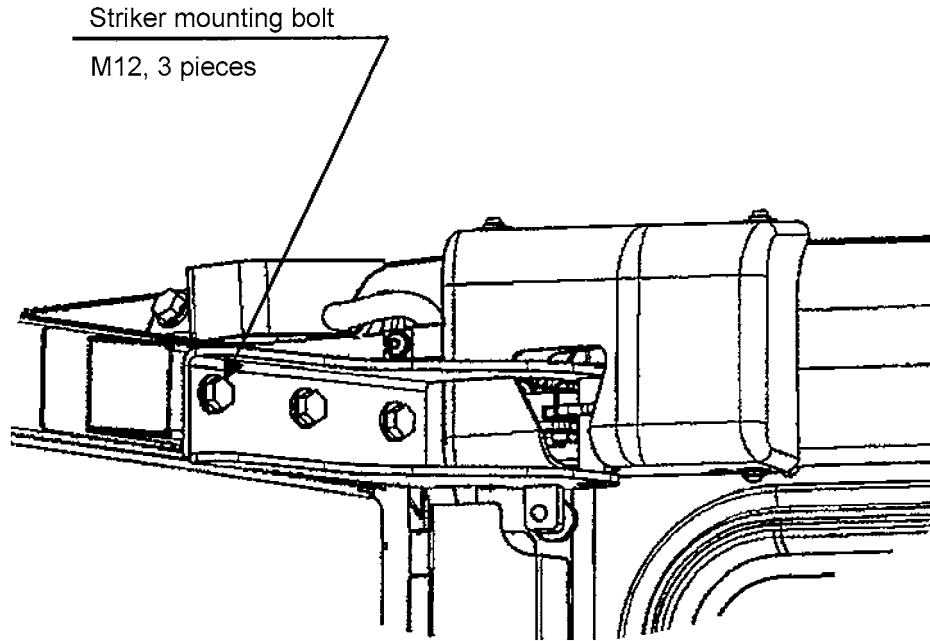
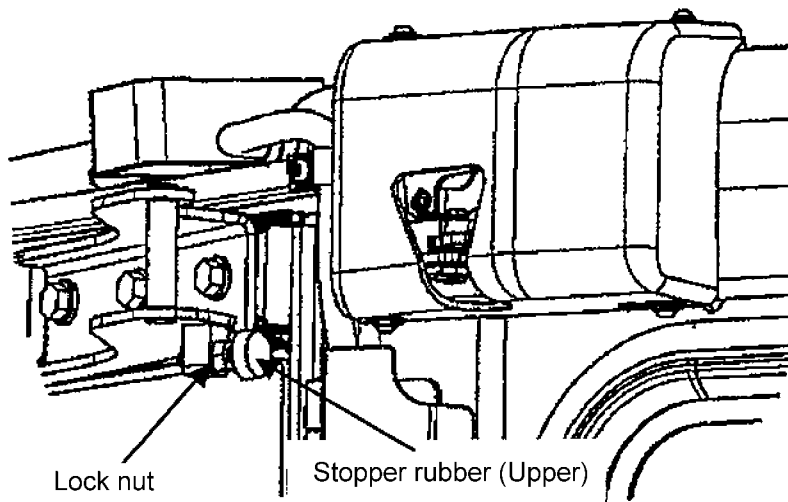

Fig. 9
Fig. 10
- (2) Adjusting installed height of stopper rubber (2 places, upper and lower) Fig. 9, Fig. 10